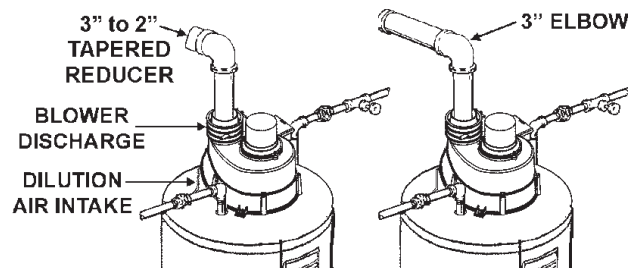

FIGURE 5
3. Make sure there is no packing material in the discharge of the blower or the intake of the dilution air restrictor. See Fig. 5.
Figure 5 shows the optimal placement of the 3 inch to 2 inch reducer; however, the vent can be reduced at any point in the vent system as long as the 2 inch vent tables are followed.